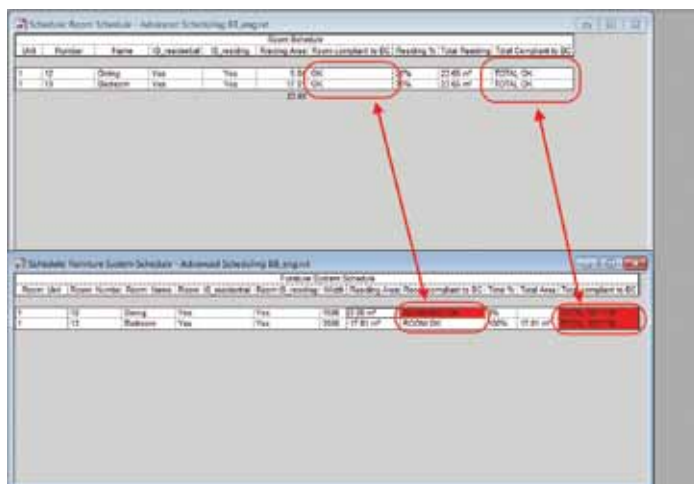

Figure 8: Same check, but now compared to using the Furniture Systems Family.
- Maybe add some calculated values to show whether or not this unit complies to the Building Code (see Figure 8).